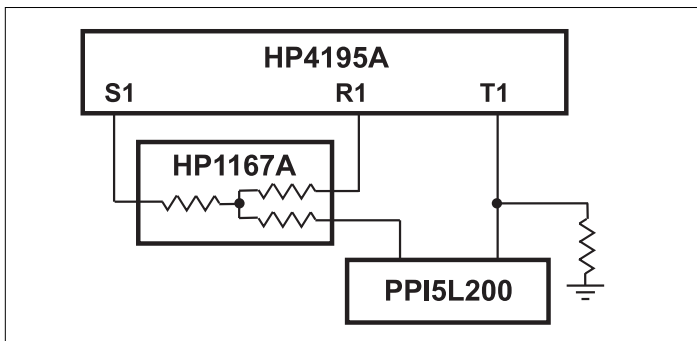

Figure 7.  $X_{TALK}$  Test Setup
from one channel to another. For instance, data from a RECEIVE (RX) channel coupled into a TRANSMIT (TX) channel in a full duplex transmission will result in error at the receive end. Sometimes  $X_{TALK}$  happens in the magnetics. In (full duplex) Ethernet the RX 100Base-T and RX 10Base-T transformers may couple data. The 5L100/200 can be inserted in the 10Base-T path to isolate data when fast ethernet is receiving data. Pericom uses a HP4195A Network Analyzer to measure  $X_{TALK}$  (see Figure 7). By looking at the channel which is selected as the TX and injecting a signal into the RX channel. The actual  $X_{TALK}$  is measured in dB as the signal sweeps from 1MHz to 300MHz.